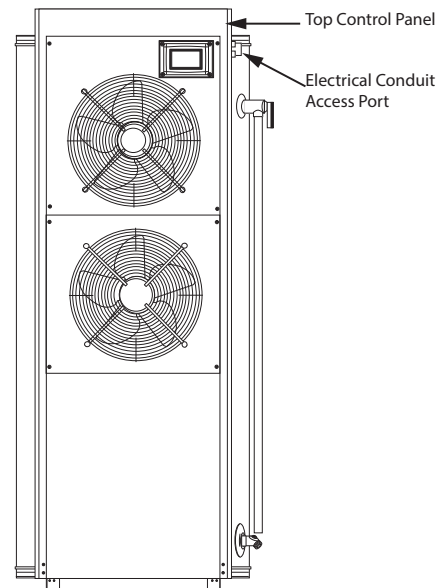

Figure 7. Electrical Installation
- a. Unlatch the top control panel cover and pick up. See *Figure 2* (page 7) and *Figure 7*.**Note:** The top control panel cover is hinged and is not removable.
- b. Unscrew the power electrical conduit access port. See *Figure 2* (page 7) and *Figure 7*.
4. Run the main power through the power electrical conduit access port. See *Figure 2* (page 7) and *Figure 7*.